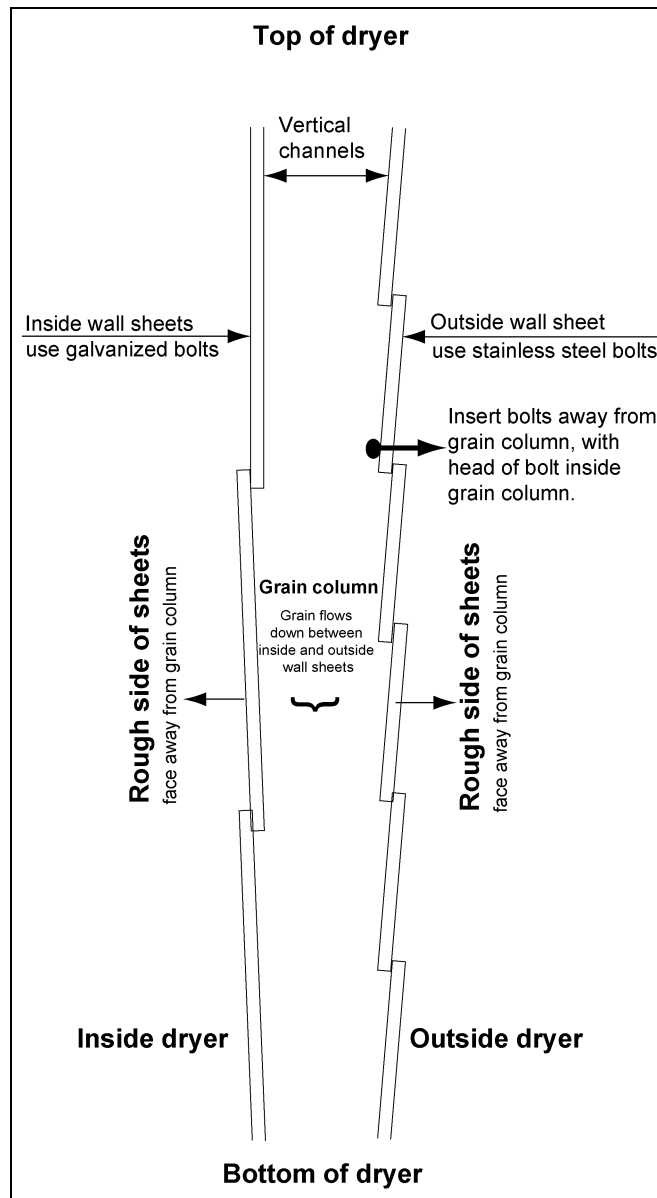

Figure 4P Cross Section
Wall sheets are installed in overlapping rings around dryer, starting at dryer top and working down. Each ring of sheets vertically overlaps the ring of sheets above it so that grain does not lodge between. Each sheet installed horizontally overlaps the previous sheet in the ring. In *Figure 4P*, sheet (B) laps sheet (1A), (C) laps (B), and so on around the dryer. Each ring of sheets is installed to lap over previous ring sheets already installed above it on dryer: (2) laps (1A), (3) laps (2), and on down dryer.
Each perforated wall sheet has a rough side and a smooth side. Install wall sheets so the rough side is away from grain column. This reduces grain sticking to wall sheets and allows grain to flow freely down grain column. (*See Figure 4P on Page 36*, wall sheets overlap.)
Install wall sheets to vertical channels so wall sheets overlap as explained in *Figure 4P on Page 36*.
Insert bolts so that bolt head is in the grain column. This reduces collection of fines (fine debris from grain), and allows grain to flow freely. (*See Figure 4P on Page 36*.)